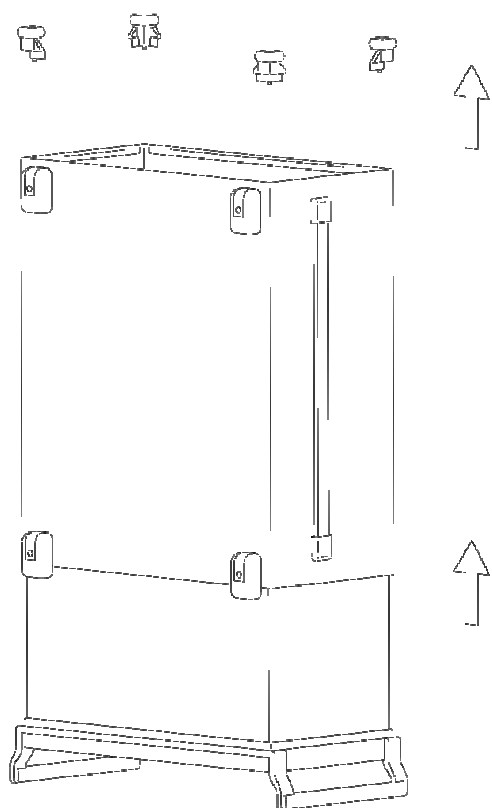

Figure 4 Removing the casing
- f Push casing upwards and remove it (see Figure 4).